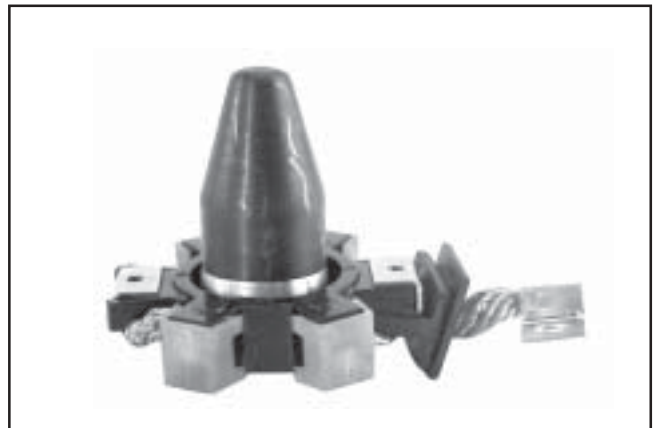

Figure 8-69. Brush Installation Tool with Extension.
- Install the brush springs and snap on the four retainer caps. See Figure 8-69.